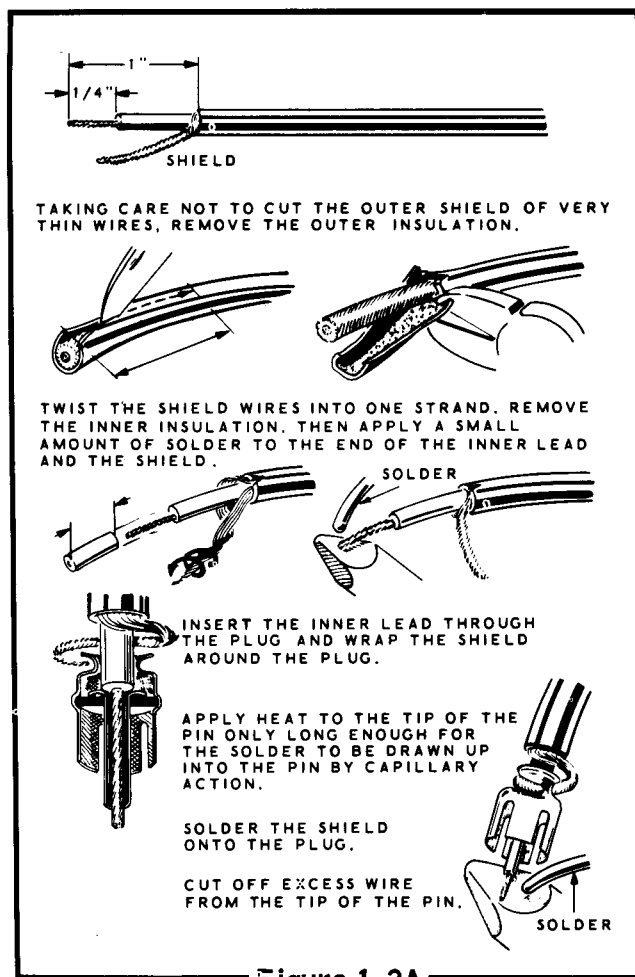

Figure 1-2A
- (-) Cut the speaker wires to the length required for your installation. Refer to Figure 1-2A to attach a phono plug to the speaker wires.
- (-) Connect the 50  $\Omega$  dummy load to the ANT phono socket on the rear of the chassis. If necessary, refer to Figure 1-2A and attach a phono plug to the 50  $\Omega$  dummy load antenna.